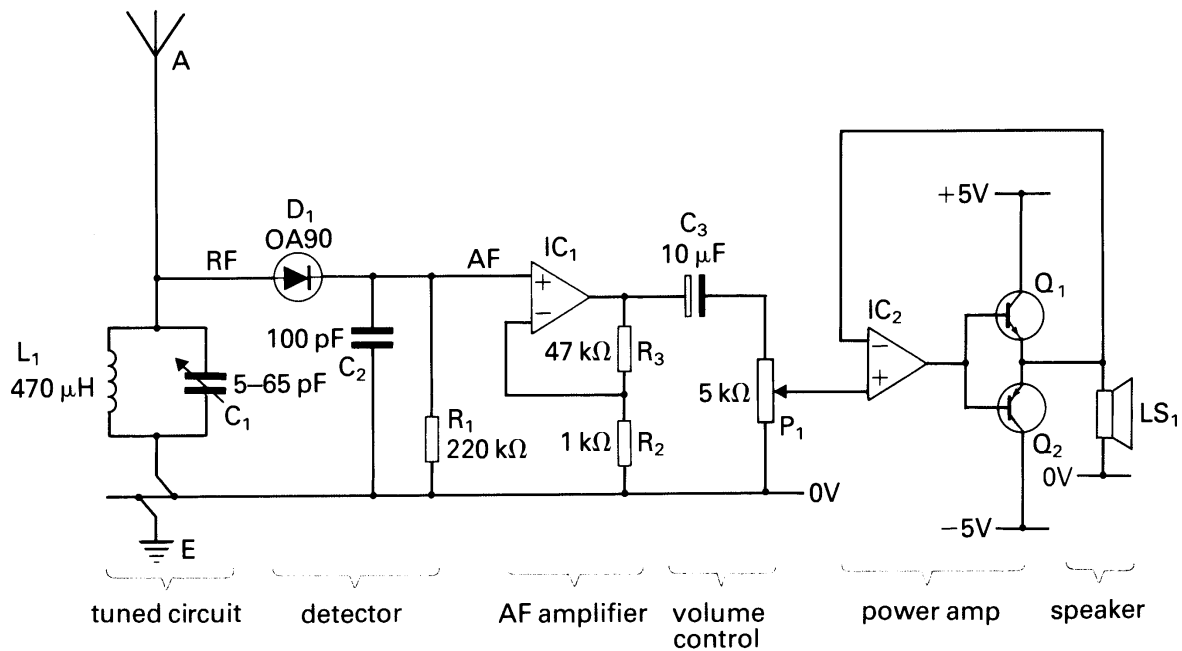

Fig. 2
The connections and values of the components inside these basic units can be shown in a circuit diagram using standard electronic symbols. Fig. 2 shows the circuit diagram for the simple radio.
6. How many of the circuit symbols in Fig. 2 can you identify? Use Appendix 1 to help you.
Now look again at Fig.2. We can describe the values of the components like this:
**8. Fill in the gaps in this description of the tuned circuit shown in Fig.2. Each gap represents one word.**